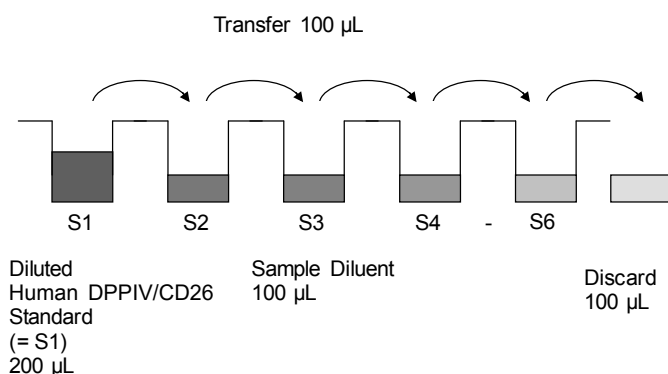

Fig. 7 Dilute standards - microwell plate
3. Standard dilution on the microwell plate (Alternatively the standard dilution can be prepared in tubes - see "External standard dilution" on page 3): Add 100 µL of Sample Diluent in duplicate to standard wells B1/2 - F1/2, leaving A1/A2 empty. Pipette 200 µL of prepared standard (see "Human CD26 standard" on page 3, concentration = 500.0 ng/mL) in duplicate into well A1 and A2 (see Table 1). Transfer 100 µL to wells B1 and B2. Mix the contents of wells B1 and B2 by repeated aspiration and ejection, and transfer 100 µL to wells C1 and C2, respectively. (see Figure 7). Take care not to scratch the inner surface of the microwells. Continue this procedure 3 times, creating two rows of human DPPIV/CD26 standard dilutions ranging from 500.0 to 15.6 ng/mL. Discard 100 µL of the contents from the last microwells (F1, F2) used.